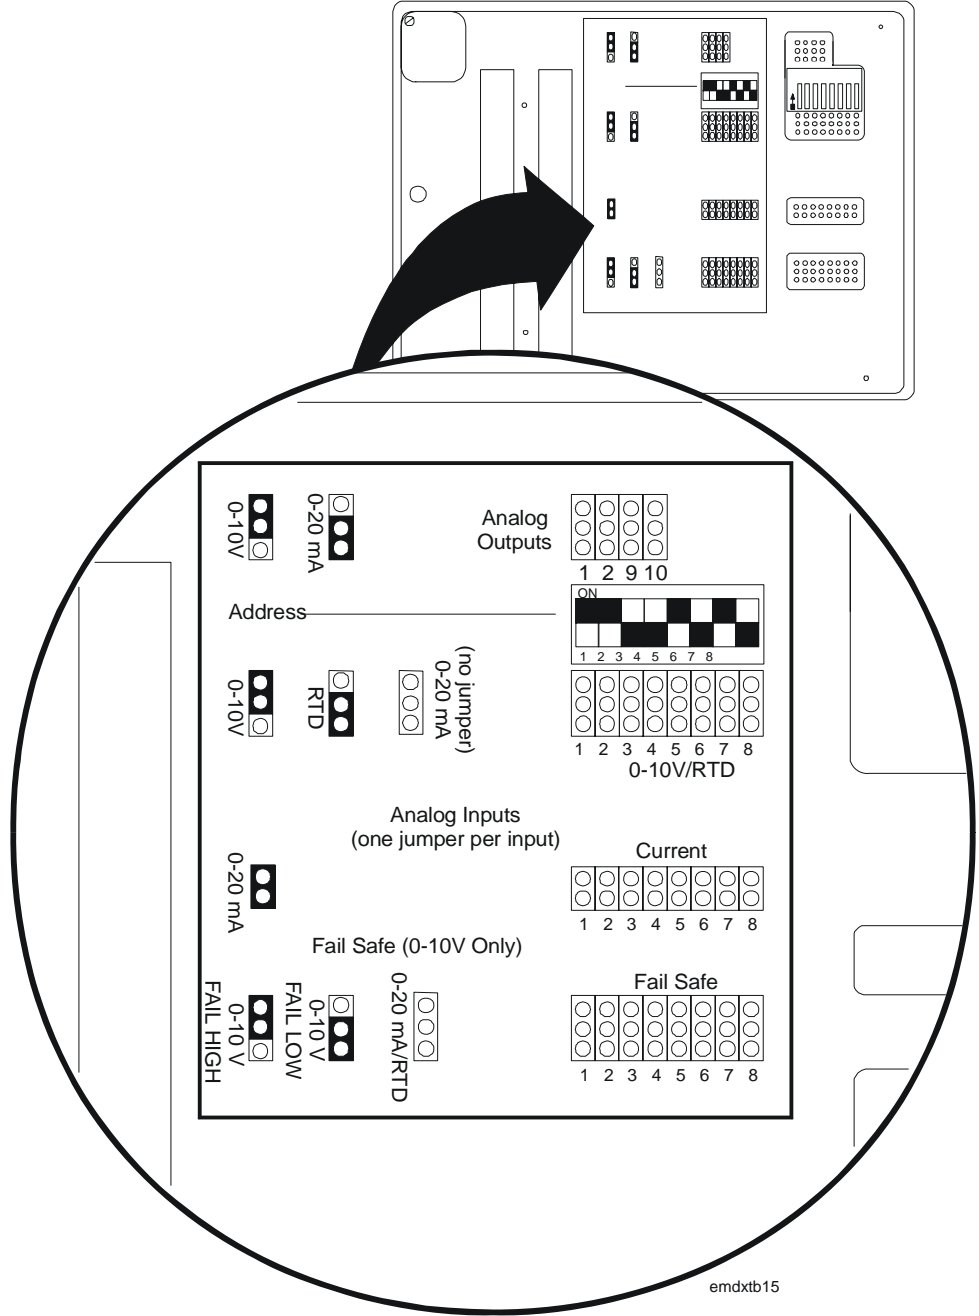

Figure 22: Jumper Details for Versions 2 and 3
7. Set the jumpers and address switches at the back of the controller as required. See *Jumper Details*, Figure 22.
5. Set the jumpers and address switches at the back of the controller as required. See *Jumper Details*, Figure 22.